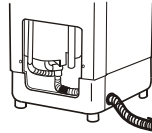

Figure 3
- 3、protrude the drain hose from the hole on the right side of the bottom, and fast it onto the bottom with the rack and screws. Set the bracket on the drain hose .There is a hole on the cabinet to hang the drain hose (as figure 3).